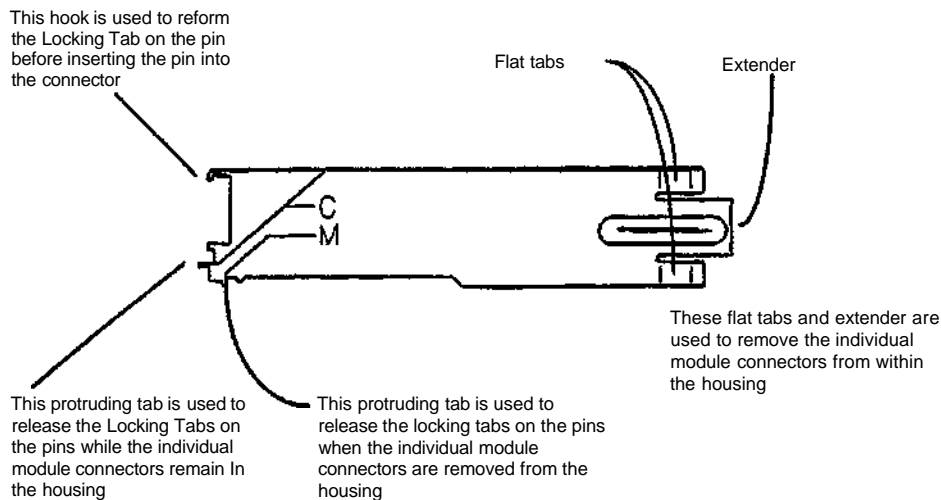

Figure 1. Molex Extraction Tool Components
1. (Figure 1): Familiarize yourself with the Molex Extraction Tool components.